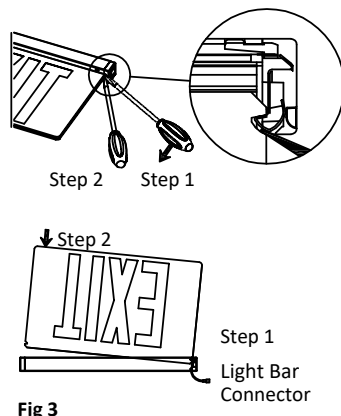

Fig 3
2. Separate trim plate, connect battery connector as shown in wiring diagram. (see Fig 3)